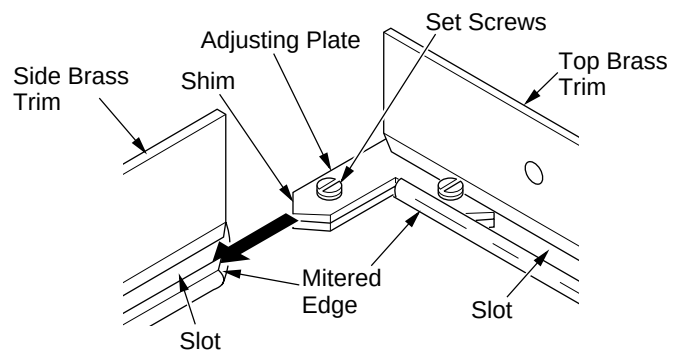

Figure 10 - Assembling Brass Trim
10. Align shim under adjusting plate as shown in Figure 10.
11. Slide one end of adjusting plate/shim in slot of top brass trim (see Figure 10).
12. Slide other end of adjusting plate/shim in slot on mitered edge of side brass trim (see Figure 10).
- Install brass trim after final finishing and/or painting of wall (see Figure 10, page 8).